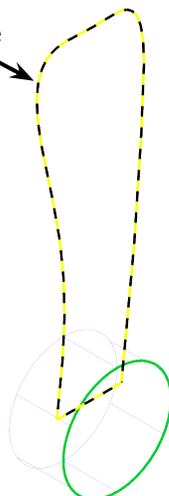

Fig. 14
Step 4. **Shift click spline** to chain **blade entities** and click End Selection (ENTER), **Fig. 14**.